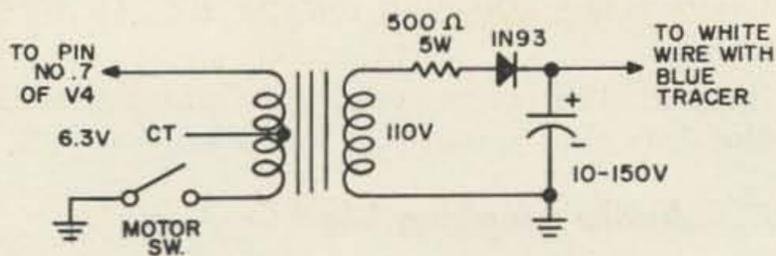

FIG. 1
17. Mount a 6.3 volt 1.2 amp. filament transformer under the chassis on the side lip near the SO-1 connector. Refer to Fig. 1
23. The 500 ohm 5 watt resistor, the IN93 diode, and 10 mfd capacitor are conveniently located near the transformer on a three lug terminal strip and wired as shown in Fig. 1.
24. Connect the wire with blue tracer, which was removed from the MOTOR switch, to the junction of the IN93 diode and the 10 mfd capacitor shown in Fig. 1.